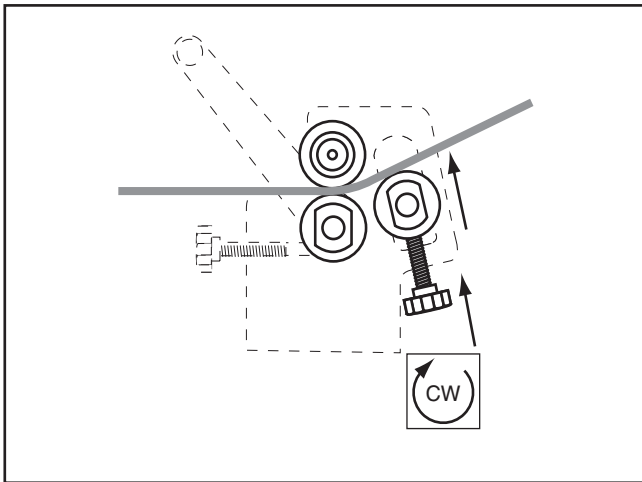

Figure 24. Setting the radius.
3. Turn the radius adjust knobs to lift the rear roller until the desired radius bend is reached (**Figure 24**). Make sure to turn the knobs equal amounts so the rear roller is always parallel with the other rollers. Failure to do so will create a larger radius on one end than the other, resulting in a cone shape.